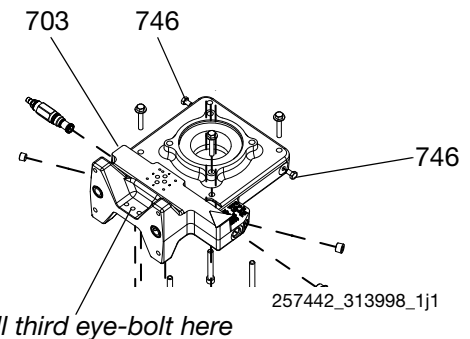

FIG. 10
5. Disconnect heat exchanger inlet hose and fitting from elbow fitting (617). Disconnect heat exchanger outlet hose and fitting from elbow fitting (025).
6. Remove the two bolts (746) from the fluid housing (703) and replace each with a strong 5/16-18 thread eye-bolt. Install a third strong 5/16-18 eye-bolt as indicated. See FIG. 10. See FIG. 8 on page 30 for full hydraulic power pack view.
3. Align the holes with the tank then install finger-tight the four bolts (604) and washers (603) securing the tank to the electrical enclosure. Torque to 10 ft-lb (14 N•m).
5. Remove eye-bolts. Install original bolts (746) into fluid housing (703). See FIG. 10, page 33.
8. Connect heat exchanger inlet hose and fitting to elbow fitting (617). Connect heat exchanger outlet hose and fitting to elbow fitting located on rear right face of tank. See **Power Pack Module**, page 50.